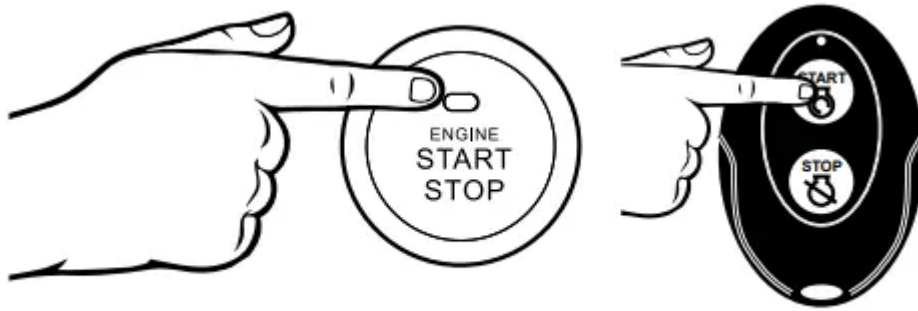

Figure 11 - Push Button Start/Remote Start
6. Push and hold the push button start until the generator starts, then release. If using remote start then hold down START on the remote key fob until the generator starts, then release (see Figure 11).